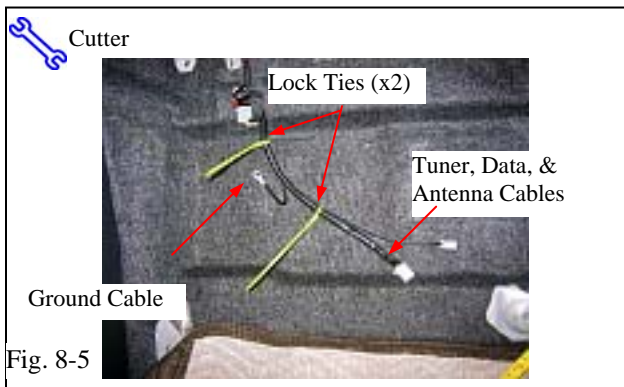

Fig. 8-5
- (i) Route the tuner cable, data cable, antenna cable, ground cable, and seat wire harness through the hole with the seat wire harness as shown. (Fig. 8-5)
- (j) Secure tuner, data, and grounds cables together with two (2) lock ties as shown. (Fig. 8-5)